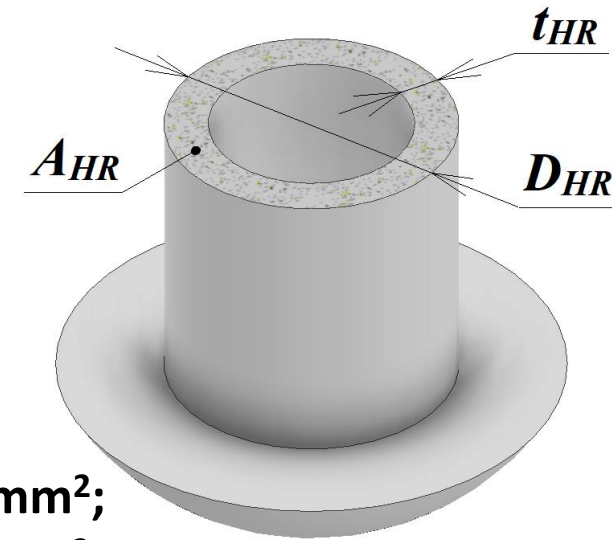

Fig. 5 –
7. Calculate a **hollow (tubular) rivet design** (Fig. 5). Usually, the **opening** in a hollow rivet is **70% of nominal rivet diameter**. Select hollow rivet **outside diameters**  $D_{HR}$  and verify selection if the **cross-section area**  $A_{HR}$  is more than the minimum  $A_{min}$ .